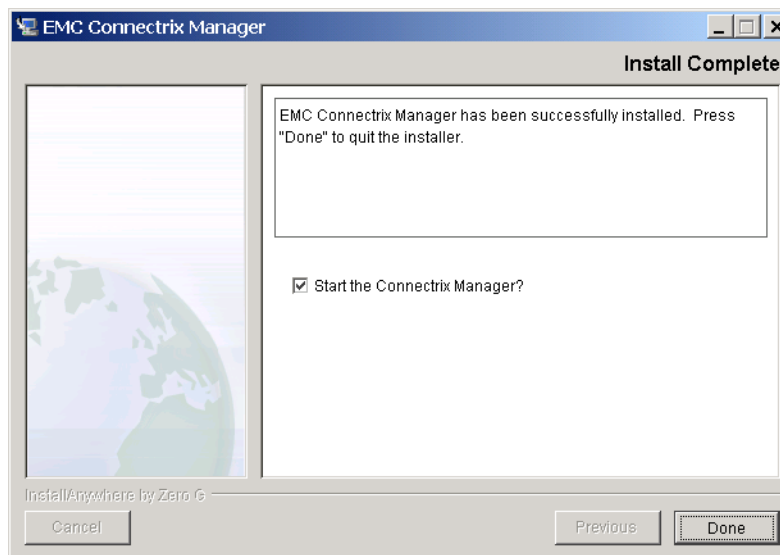

Figure A-33 Connectrix Manager Installer — End Screen
13. When complete, an Install Complete window (Figure A-33) appears. Click **Done** to close the window.